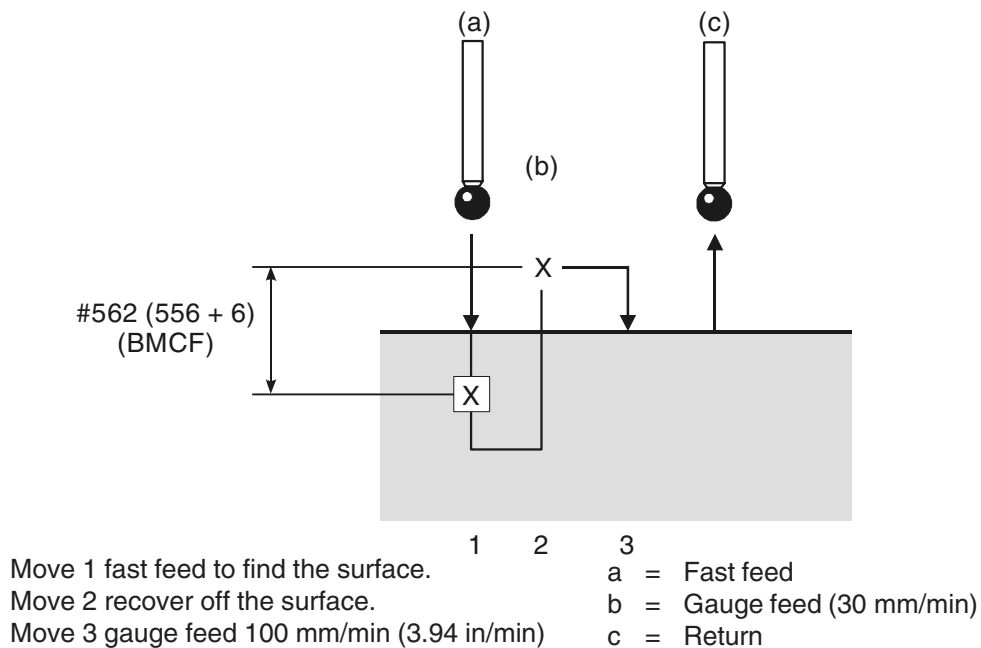

Figure I.1 Basic move control factor
- #562 (556 + 6) Basic move control factor. This is used to control the back-off distance in the basic move before the final gauge move. It should be fine tuned on installation to suit the machine. Refer to Figure I.1 for a diagrammatic representation.